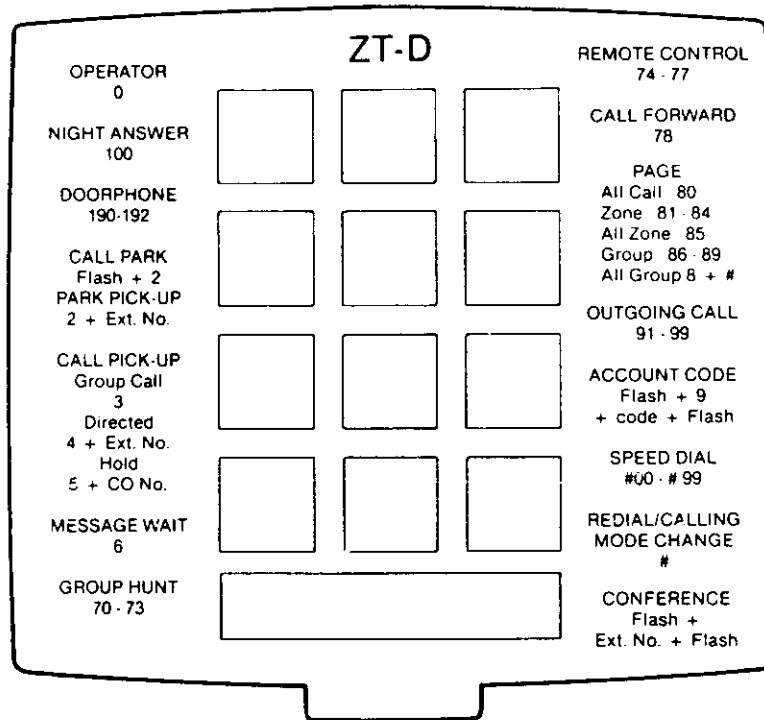

FIGURE 2-13 DTMF SINGLE LINE DIAL MASK
- DTMF single line telephones require DTMF receivers to be added to the system. Up to eight (8) DTMF receivers can be equipped on the system.
- b. FIGURE 2-13, illustrates the DTMF telephone feature plan and optional faceplate masks available.
5. DCDC-Z1: (-48volt) Power Supply (616)